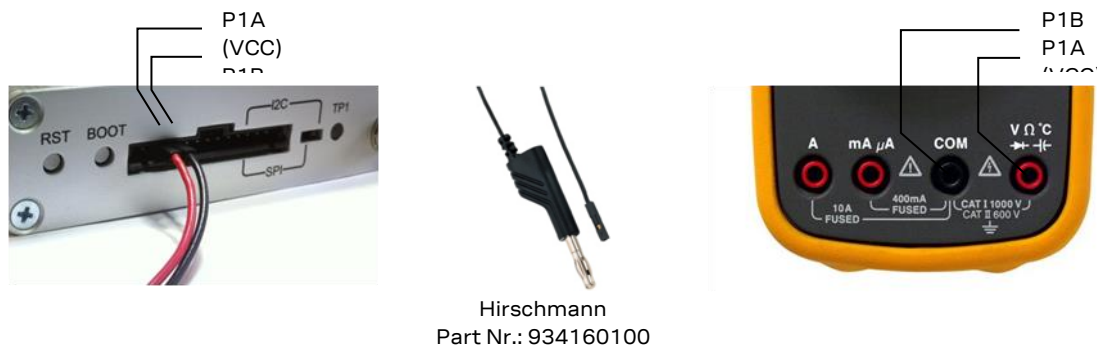

Figure 13: Example – tracking current measurement
1. Connect a mean-reading voltmeter across P1A (VCC) and P1B of the front connector (see Figure 13).